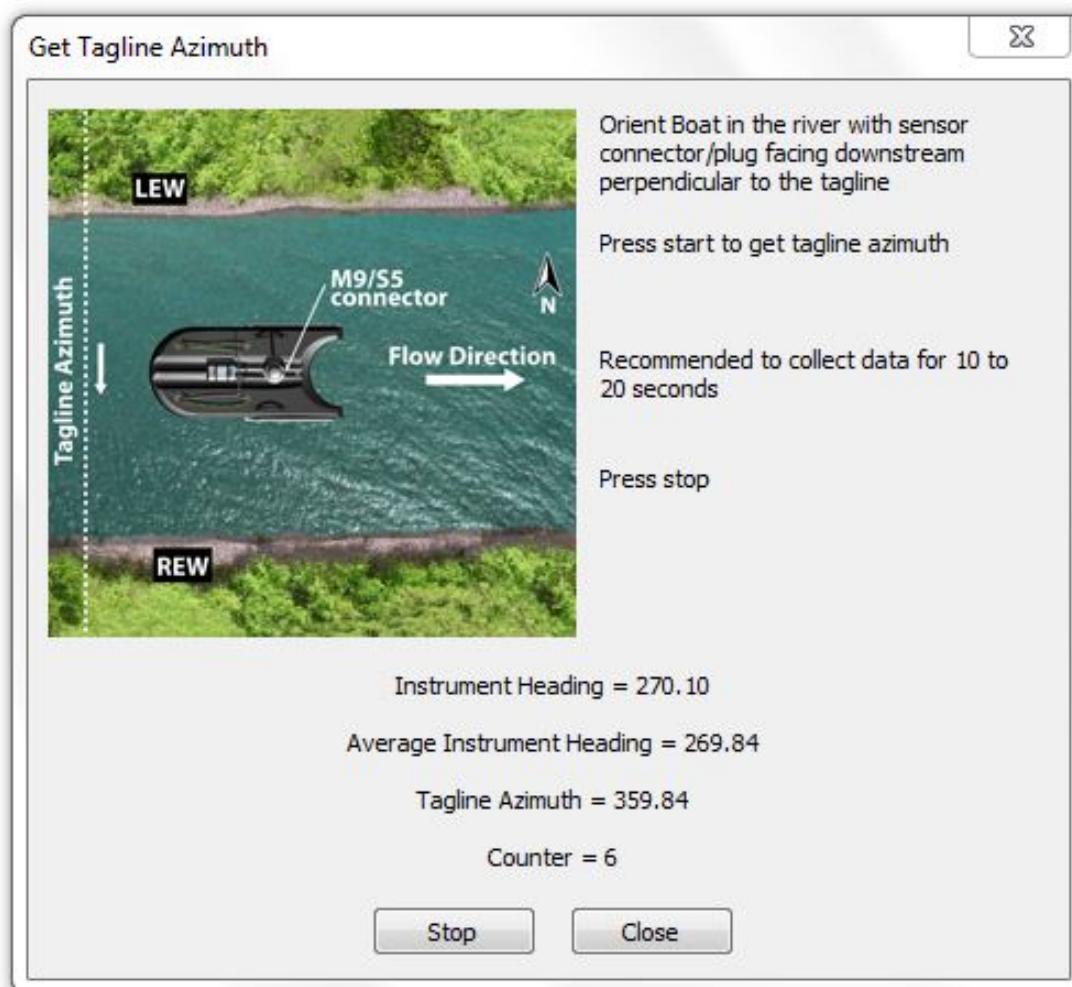

Figure 132. Get Tagline Azimuth
2. Once the M9/S5 has been correctly aligned with the river and is relatively steady press **Start** to collect data. During this time the compass will display instrument heading at 1-second intervals, average instrument heading, computed tagline azimuth, and the number of samples (in seconds) as shown in Figure 132. After 20-30 seconds of data collection press **Stop** and close the dialog. The tagline azimuth field in the system settings dialog box will automatically be updated with the tagline azimuth measured using *Get Tagline Azimuth*.